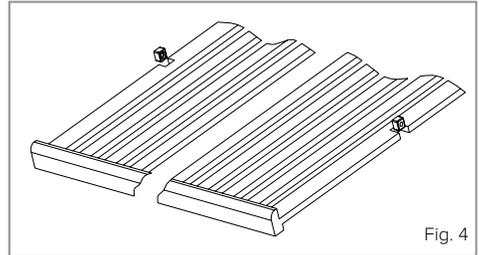

Fig. 4
- To remove a shelf from the wine cooler, first remove all bottles from the shelf, then pull the shelf forwards until the groove on either side of the shelf is level with the plastic peg on either side of the cabinet (as shown in fig 4). Then lift the shelf up and pull forwards.